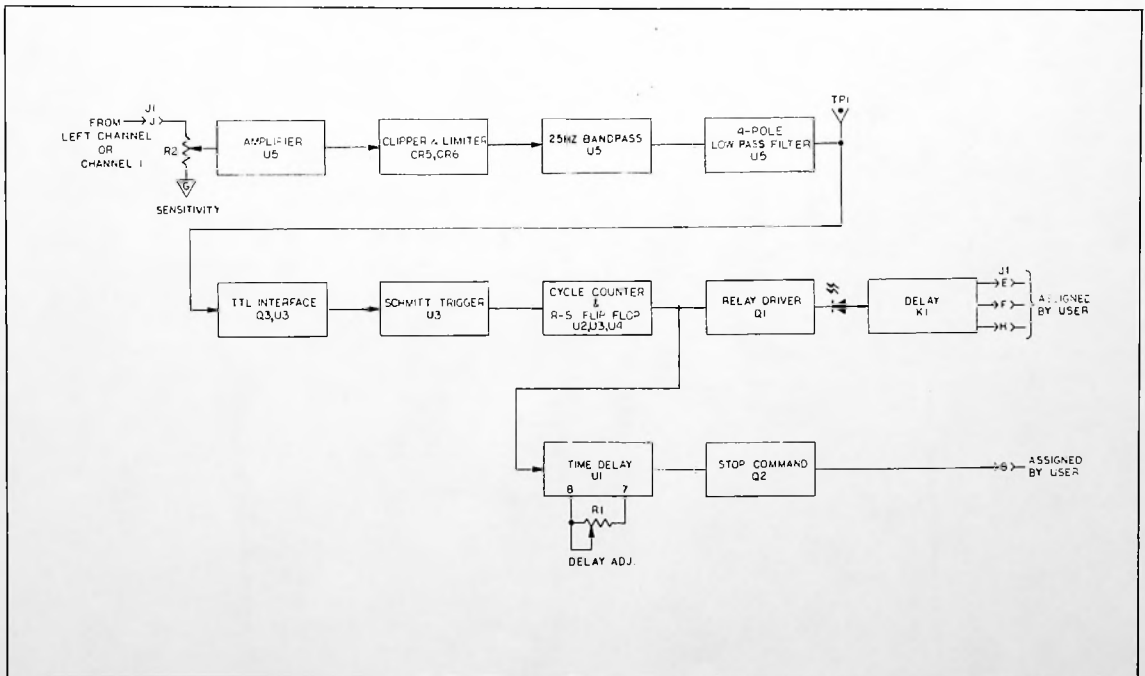

Figure 6-7. Cuetone Detector Functional Block Diagram
6.38 The Cuetone Detector, when installed on the 255 Series Reproducers, detects prerecorded 25 Hz tones as end-of-tape warning. The outputs from the detector can be used to sequentially start up additional reproducers and a Stop command to the reproducer that is running out of tape. The detector consists of: (1) amplifier U5, (2) clipper/limiter CR5 - CR6, (3) 25 Hz bandpass filter, (4) 4-pole lowpass filter, (5) TTL interface
Q3, (6) Schmitt trigger U3, (7) cycle counter and R-S flip-flop U2, U4, U3, (8) relay driver Q1, (9) relay K1, (10) delay circuit U1, (11) transistor Q2, and associated components. Figure 6-7 shows a simplified functional block diagram of the Cuetone Detector.